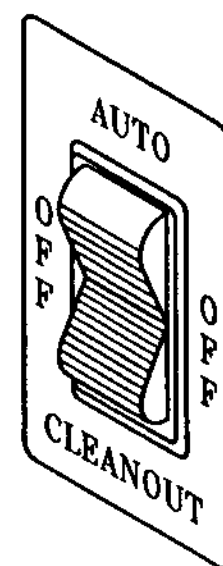

Fig. 2c
4. Set the control switch (Fig. 2c) to the "CLEANOUT" position momentarily to verify the direction of rotation of the dasher pulley (Exploded View). It should rotate clockwise as viewed from the rear of the machine.